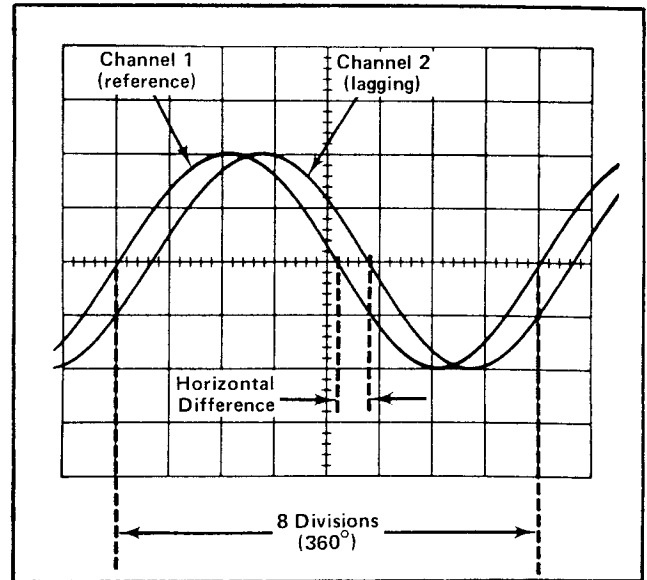
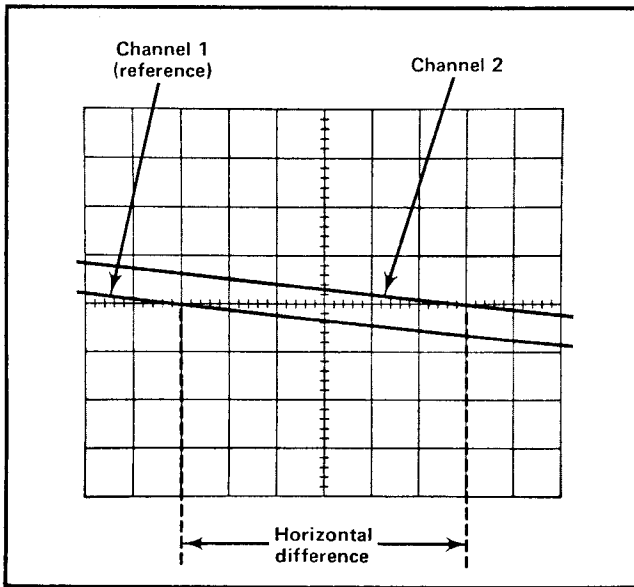

Fig. 2-27. Measuring phase difference.
Fig. 2-28. High resolution phase-difference measurement with increased sweep rate.
10. Turn the A VARIABLE control until one cycle of the reference signal (Channel 1) occupies exactly eight divisions between the first and ninth graticule lines (see Fig. 2-27). Each division of the graticule represents 45° of the cycle ( $360^\circ \div 8 \text{ divisions} = 45^\circ/\text{division}$ ). The sweep rate can be stated in terms of degrees as 45°/division.
**Example.** Assume a horizontal difference of 0.6 division with a sweep rate of 45°/division as shown in Fig. 2-27.
**Example.** If the sweep rate were increased 10 times with the magnifier, the magnified sweep rate would be  $45^\circ \div 10 = 4.5^\circ/\text{division}$ . Fig. 2-28 shows the same signals as used in Fig. 2-27 but with the MAG switch set to X10. With a horizontal difference of 6 divisions, the phase difference is: